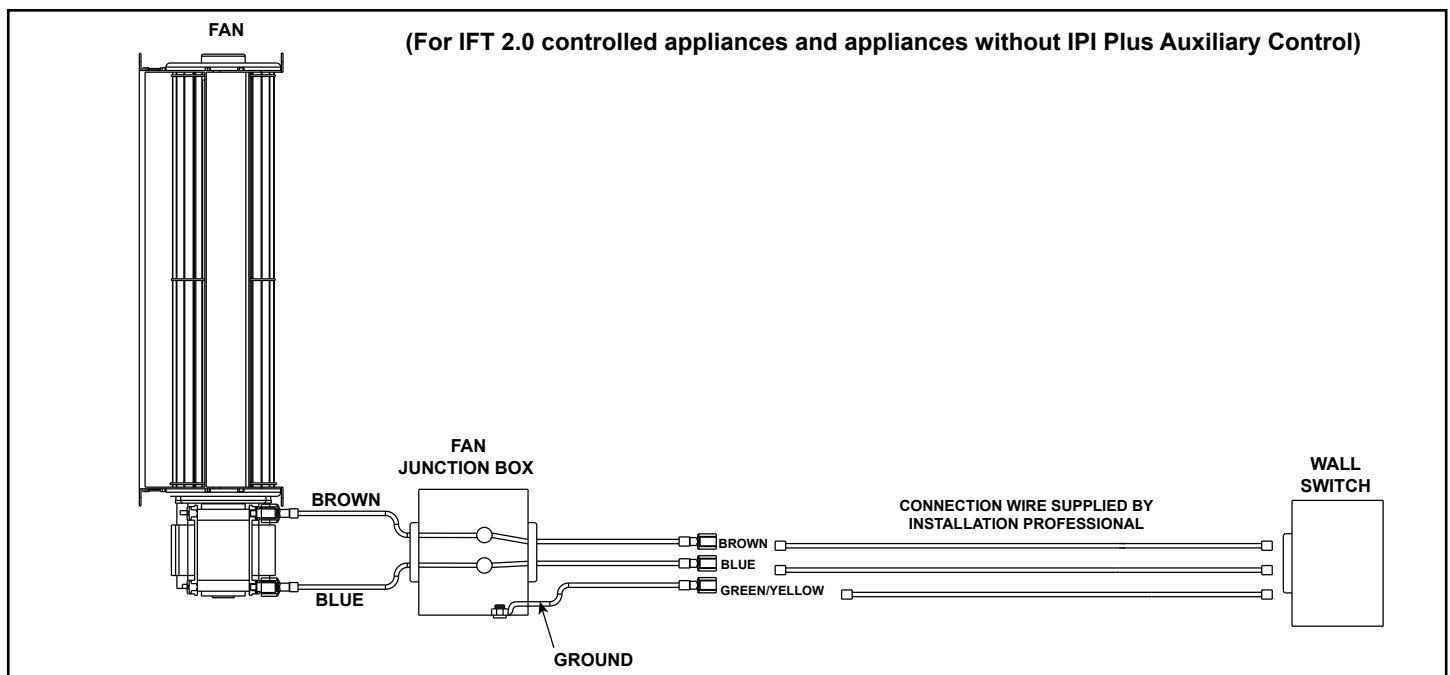

Figure 5.10 Wiring Diagram for IFT 2.0 Controlled Appliances and appliances without IPI Plus Auxiliary Control
10. 240 VAC switched power to the Heat-Zone must be wired independently by a qualified electrician. There are no provisions on the IFT 2.0 ACM for controlling Heat-Zone. Inside of fan junction box, secure wires to fan wires using wire connectors and screw the ground wire to the fan junction box. See Figure 5.10.